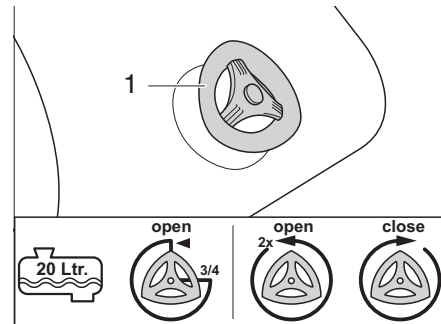

Fig. 286 Drain cock
- 1/2 full or less: Turn the drain cock (Fig. 286,1) 3/4 of a rotation anti-clockwise. The water drains off.
- 3/4 full and more: Turn the drain cock (Fig. 286,1) 2 rotations anti-clockwise. The water drains off.
- Close the drain cock (Fig. 286,1) clockwise.